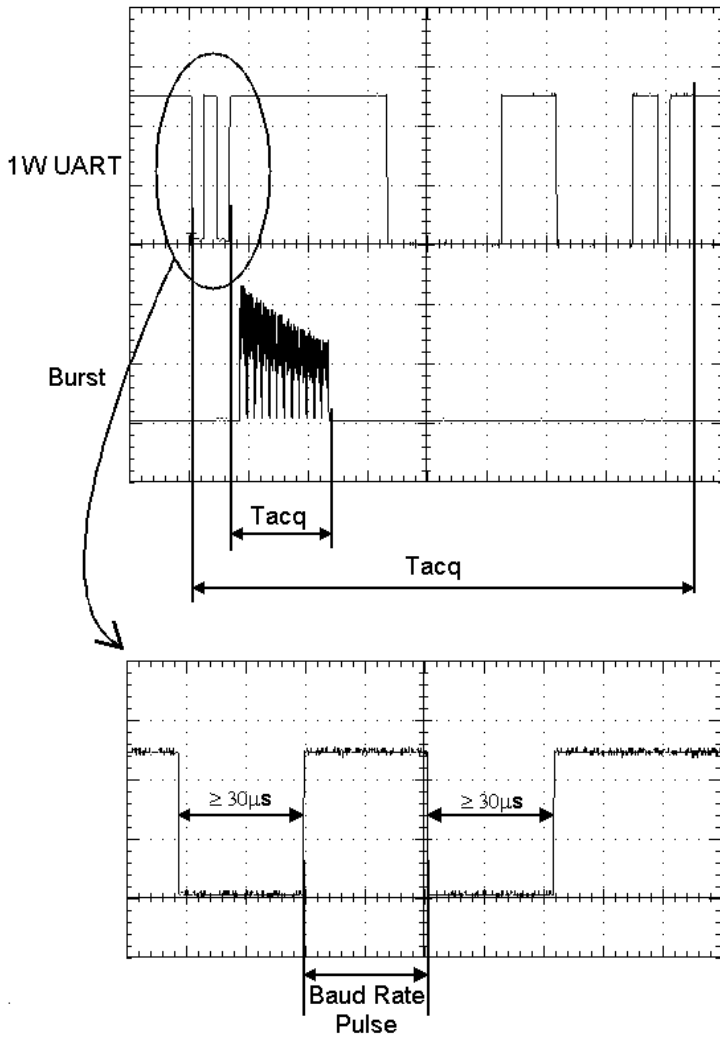

Figure 4-1 UART and Trigger Pulse Signal.
- 1) Host generates pulse on 1W pin; pulse width must match Baud rate (bit width) of desired return rate. This actually sets the Baud rate, so it can vary from one acquire to another. See Section 4.3 and Figure 4-1.
The part wakes from low power mode when the first negative edge is detected on the 1W pin (Figure 4-1, bottom). The negative pulse must be at least 30μs wide.